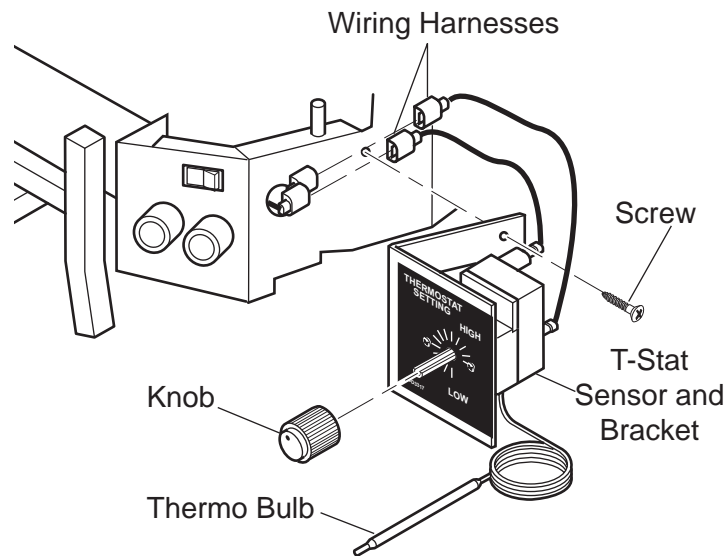

Figure 22 - Installing T-Stat Sensor to DEB Base with Screw Provided
5. Route wiring harnesses through large hole on side of unit. Mount bracket to side of unit with screw provided. *See Figure 22.*
6. Attach wiring harness to either TP/TH and TH on control valve or to existing wiring harness with two (2) 0.250" male spade terminals for remote or t-stat option. *See Figures 22 and 23.*
7. Install knob to shaft of t-stat sensor. *See Figure 22.*